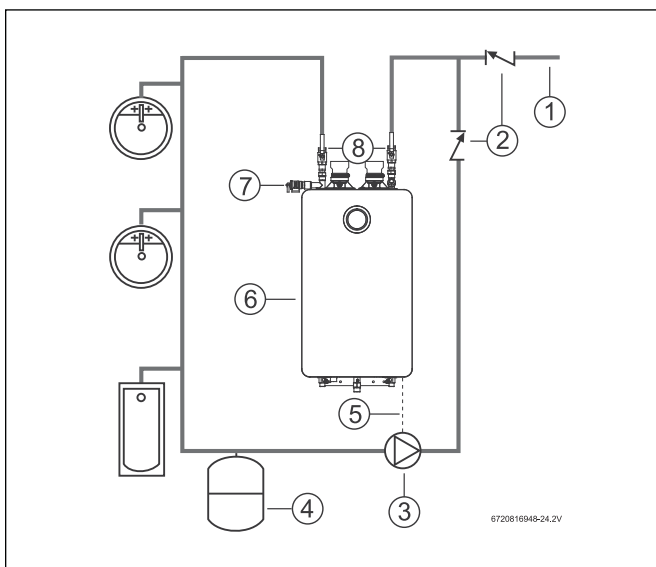

Figure 3 Recirculation application with dedicated return line
- ▶ **Dedicated return line** making a complete hot water loop from the water heater to each water point of use and back to the water heater (Figure 3).
The preferred recirculation system uses a dedicated return line. See figure 3.